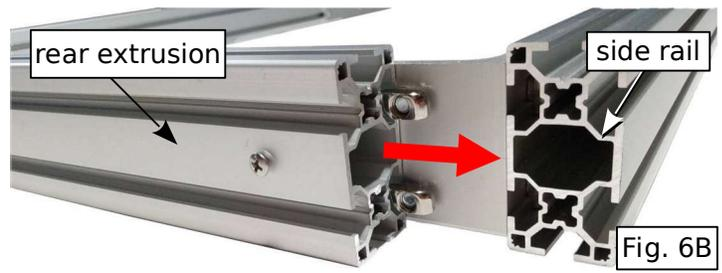

Fig. 6B
6. Insert two M6 x 12 mm button head socket screws into the holes in the short legs of the corner brackets on the opposite end of the frame. Thread the shoulder side of a hammer nut one turn on the end of each screw (Fig 6A, below). Slide the slots in the rear T-slot extrusion over the hammer nuts until the ends of the rear extrusion are flush with the outside of the side rails (Fig 6B, right). Tighten the screws with the 4 mm hex key (Fig 6C).